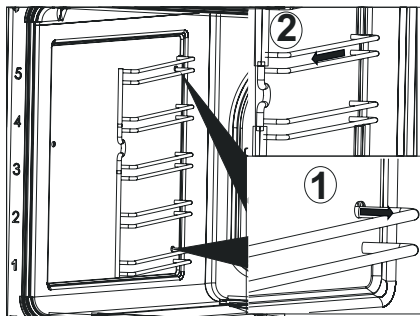

Fig. 28
- 4.** ➔ Pull the wire rack towards the inside of the oven and remove the legs of the wire rack from their seats. Remove the wire rack from the oven after releasing the wire rack from its legs (Fig. 28).